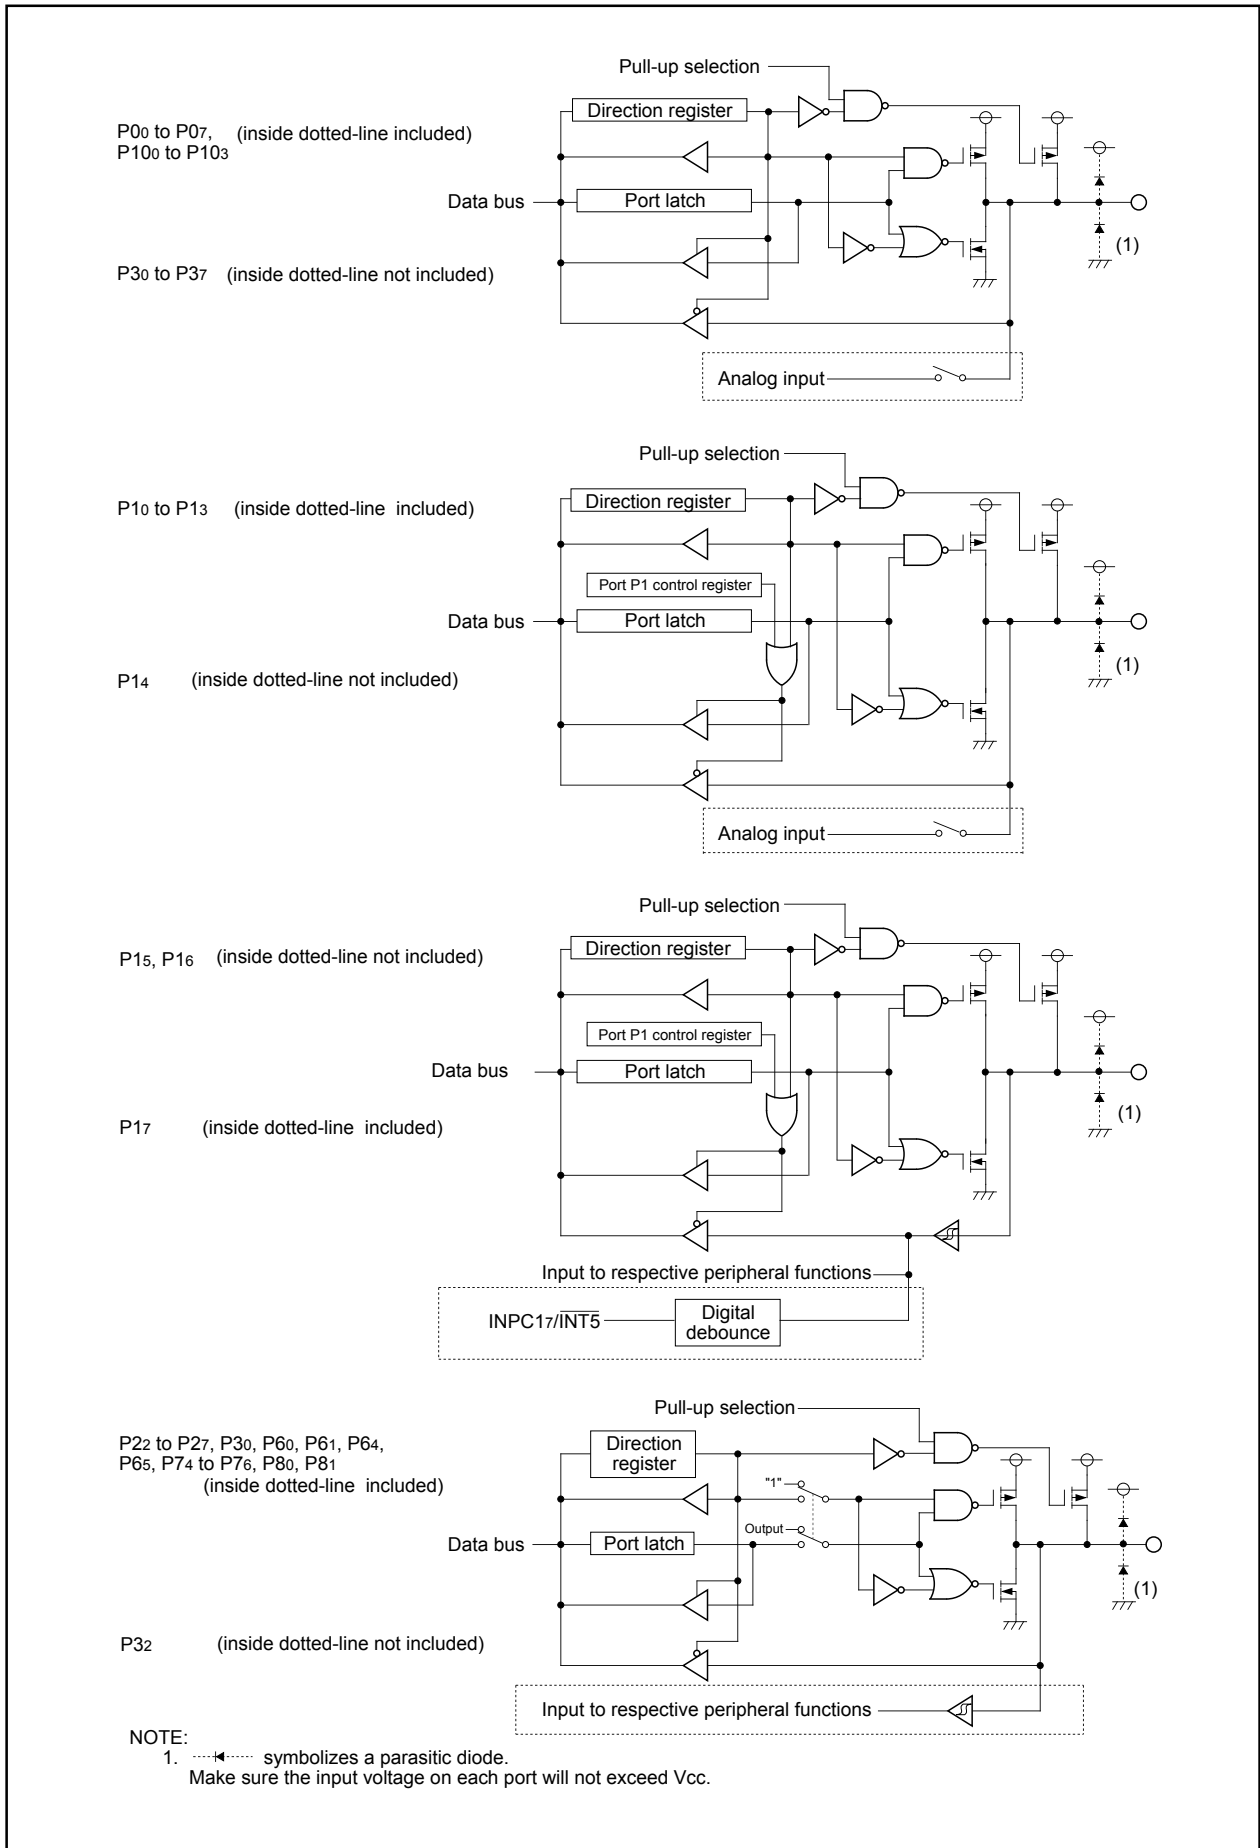

Figure 18.1 I/O Ports (1)
**Figures 18.1 to 18.4** show the I/O ports. **Figure 18.5** shows the I/O pins.